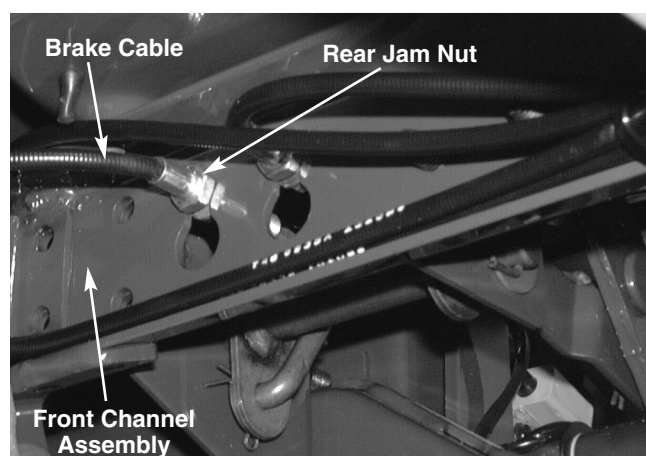

FIGURE 1.
- 2). Follow the brake cable forward to the front channel assembly. See figure 1.